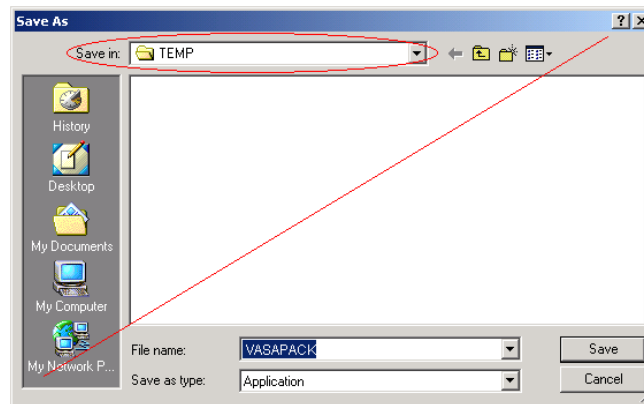

Figure 3: Note “Save” location
Step 3: Locate the **Save in:** part of the window as circled in figure 3.